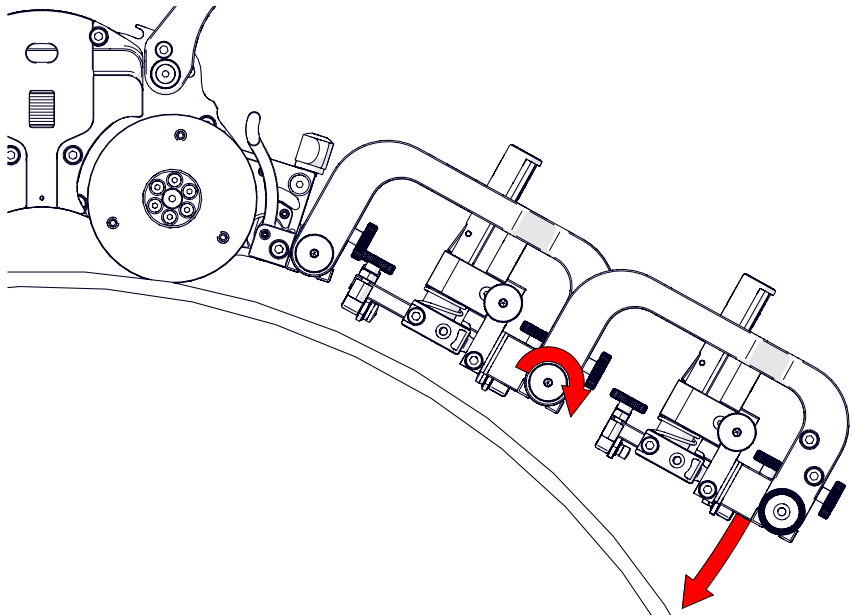
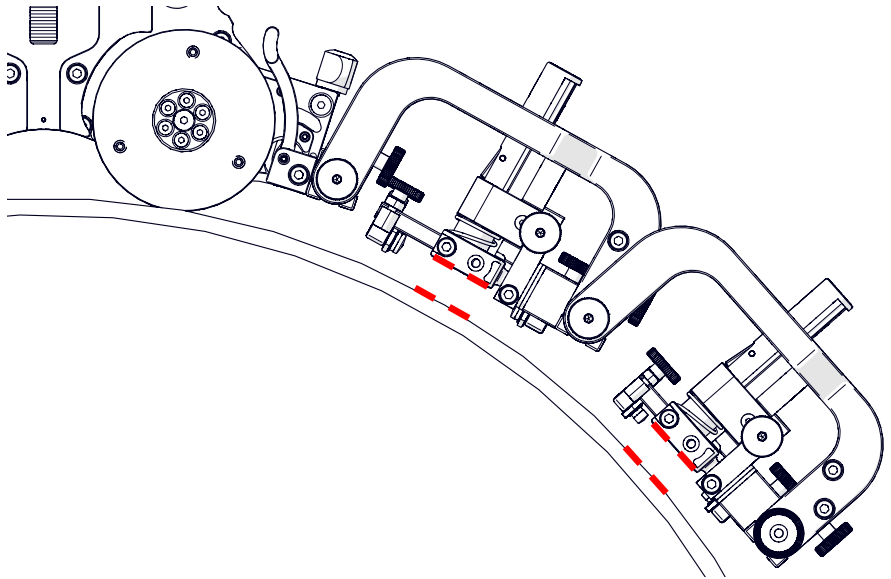

Fig. 163 - Set front rotational adjustment knob
Fig. 164 - Align probes with the scan surface tangent
6. Loosen the front rotational adjustment knob (Fig. 163) to align the TOFD probe holders parallel with the scan surface (Fig. 164).